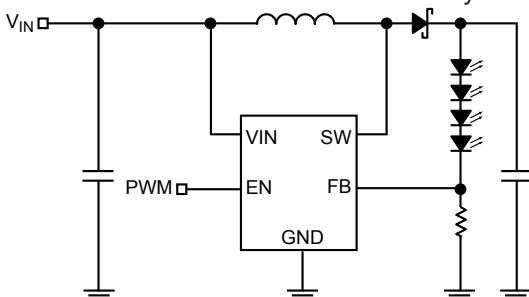

Figure 1. PWM Dimming Method
1. PWM dimming control is implemented by applying a PWM signal on EN pin as shown in Figure 1. The MIC2287 is turned on and off by the PWM signal. With this method, the LEDs operate with either zero or full current. The average LED current is increased proportionally to the duty-cycle of the PWM signal. This technique has high-efficiency because the IC and the LEDs consume no current during the off cycle of the PWM signal. Typical PWM frequency should be between 100Hz and 10kHz.